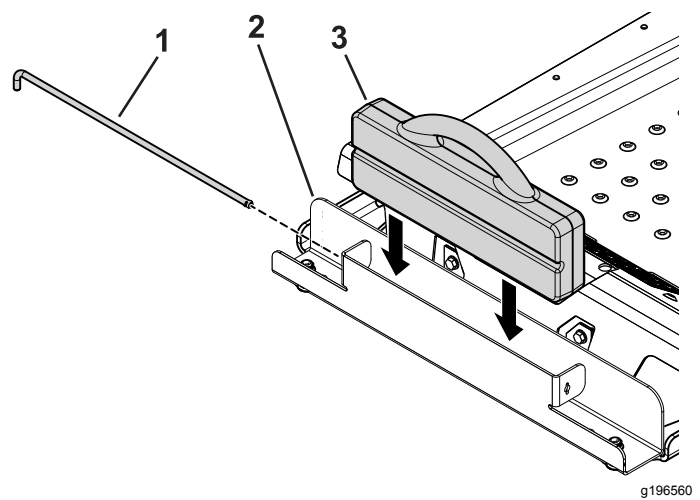

Figure 5
4. Insert the suitcase weight into the weight tray with the groove side facing toward the front of the machine (Figure 5).
5. Insert the retaining rod into the tray and rotate it into the locked position (Figure 5).